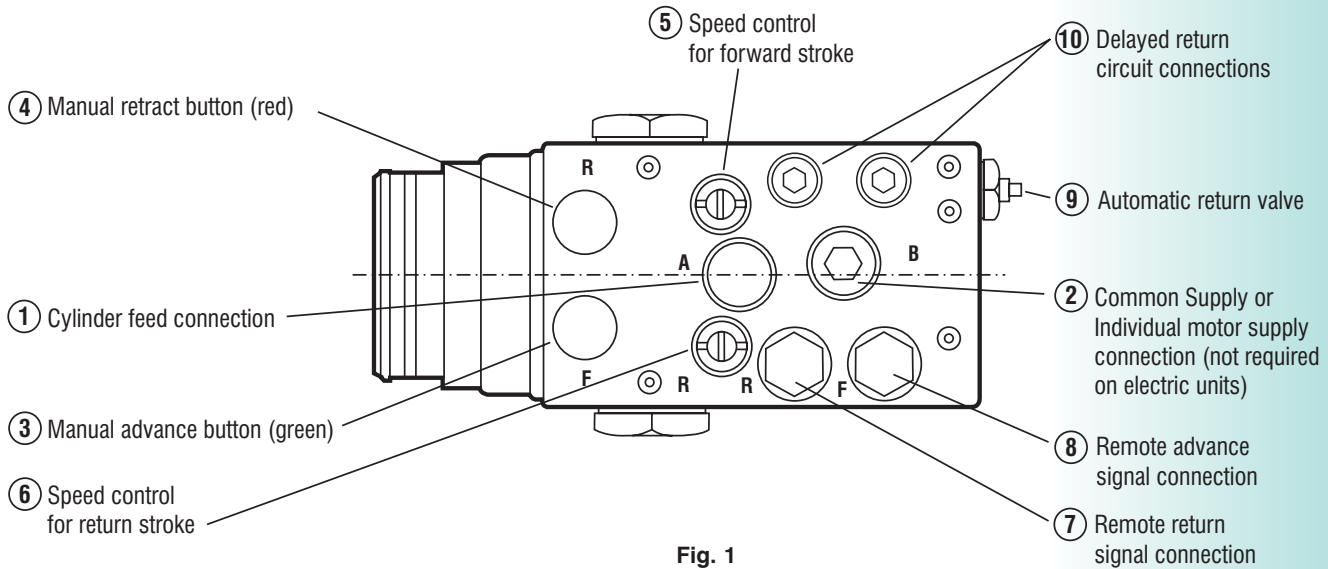

Fig. 1
- A signal 2.7 bar (40 psi) minimum needs to be applied to the remote advance port 8 (Fig. 1).
- A signal of 2.7 bar (40 psi) minimum needs to be applied to the remote retraction port 7 (Fig. 1).
Note: The remote advance and retraction signals will exhaust to atmosphere via their respective manual feed buttons (3 and 4, Fig. 1) all the time the signal is
(Adjust 5, forward speed control, Fig. 1 to achieve) where: